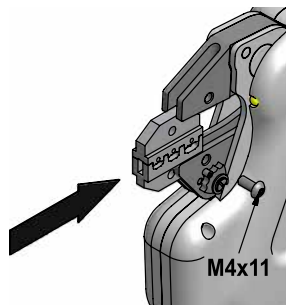

Figure 5
e.g. for insulated/non-insulated cable connectors, butt and coax connectors, wire-end sleeves, RJ plugs, etc. (Figure 5, 6)
2. Push the assembled crimping die set – as shown in Figure 5 – into the slot of the crimping tool until the lower piece of the die set can be loosely secured in position by locking the M4x11 bolt.
2. Push the assembled crimping die set – as shown in Figure 5 – into the slot of the crimping tool until the lower piece of the die set can be loosely secured in position by locking the M4x16 bolt.